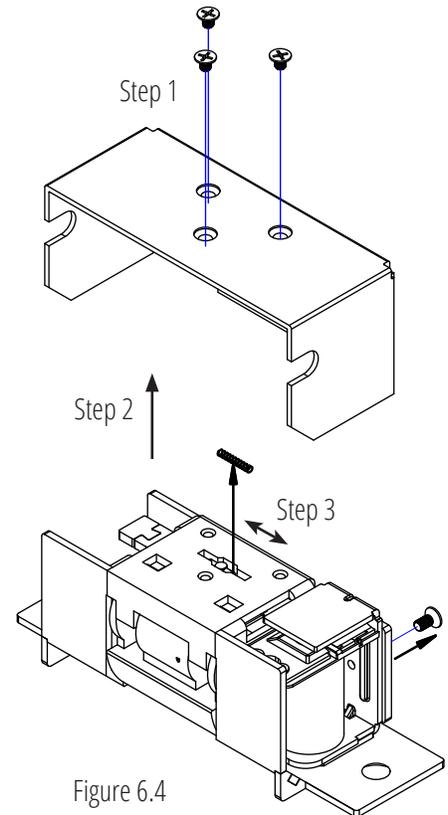

Figure 6.4
1. Loosen and remove the screws from the back of the strike as shown in the Figure 6.4.